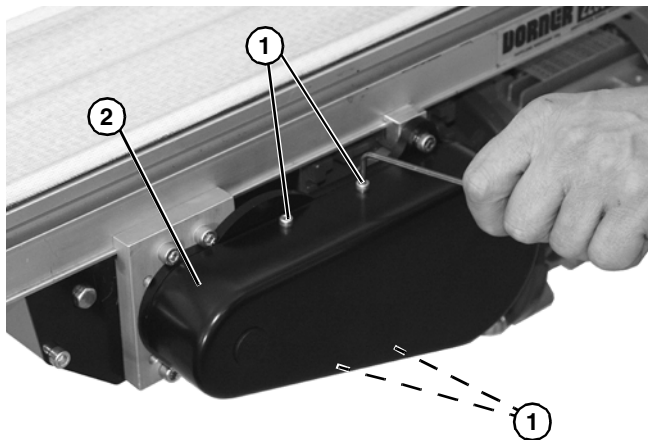

Figure 13
1. Remove four (4) screws (**Figure 13, item 1**) and remove cover (**Figure 13, item 2**).
4. Install cover (**Figure 13, item 2**) with four (4) screws (**Figure 13, item 1**). Tighten screws to 35 in-lb (4 Nm).
6. Install cover (Figure 13, item 1) with four (4) screws (Figure 13, item 2). Tighten screws to 35 in-lb (4 Nm).
1. Remove four (4) screws (Figure 13, item 2) and remove cover (Figure 13, item 1).